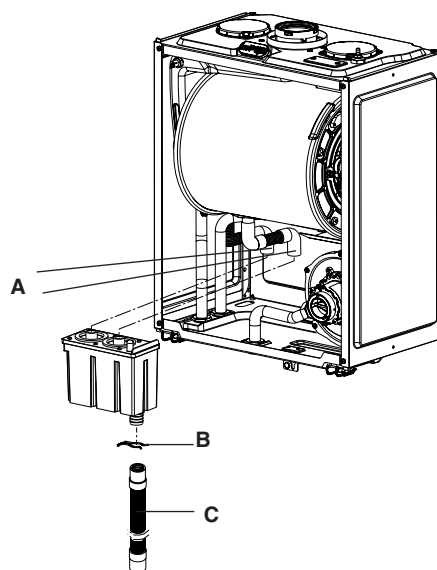

Fig. 35
6.25 CONDENSE TRAP REMOVAL (fig. 35)